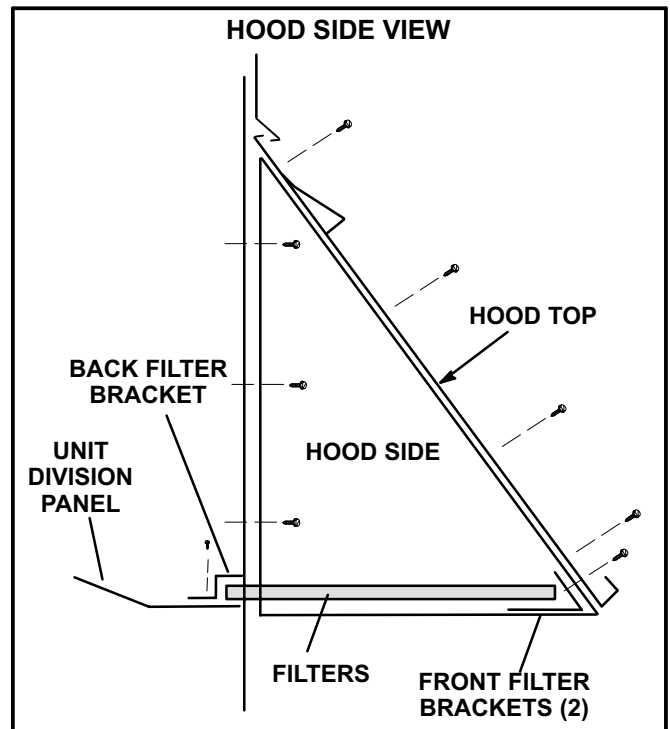

FIGURE 9
- 6- Install back filter bracket on unit division panel as shown in figure 9.